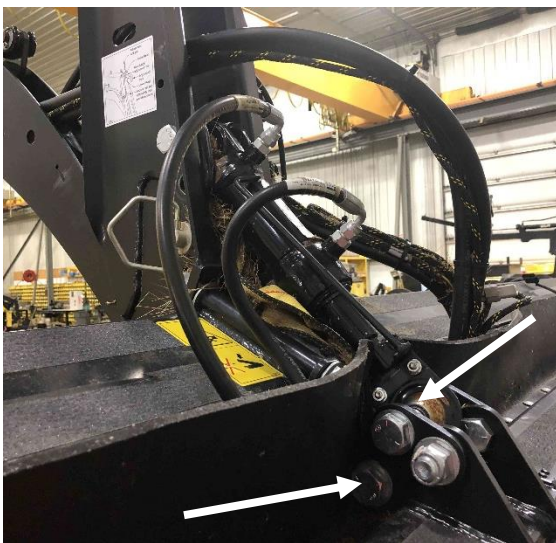

Figure 8
2. Attach a suitable lifting device to the subframe. Remove the bolts that retain the tilt cylinder and the safety strap to the subframe. Figure 8